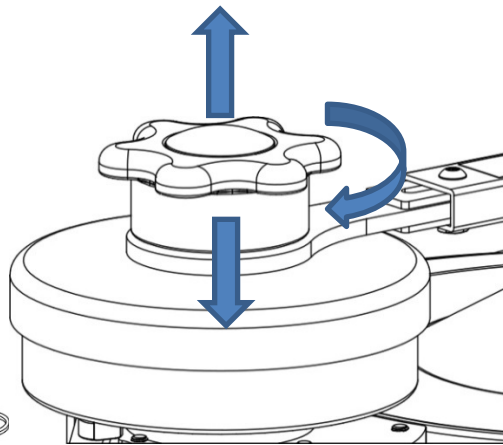

Figure 3
2. Lift and rotate activation knob 90 degrees until arrow points from "SRL" to "RESCUE" mode, the knob will drop in place. See *figure 3*.